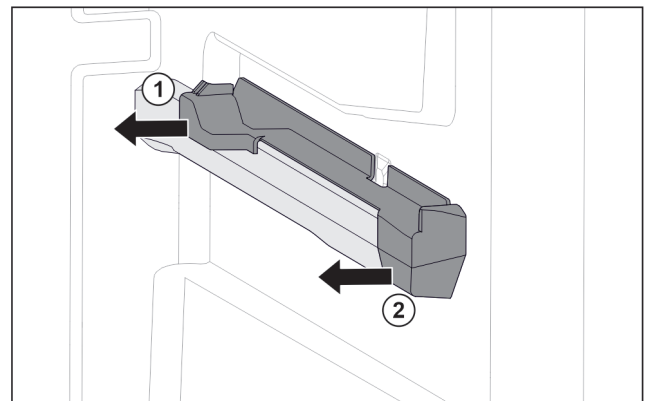

Fig. 121 Attachment on the right moulded rib
- ▶ Pull off attachment at the back sideways. *Fig. 121 (1)*
- ▶ Pull off attachment at the front sideways. *Fig. 121 (2)*